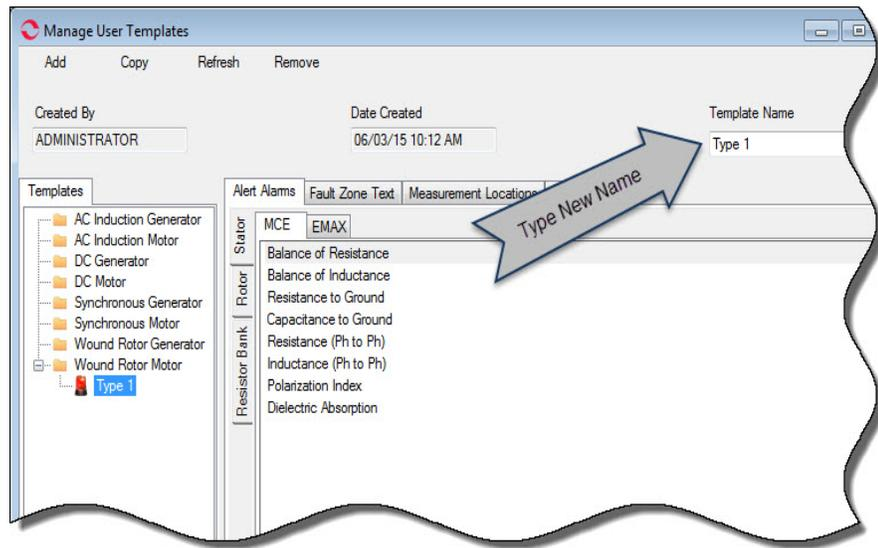

Figure 3-11: Manage User Templates
2. Type the new name in the Template Name text box located in the upper right side of the Manage User Templates window shown in Figure 3-11.